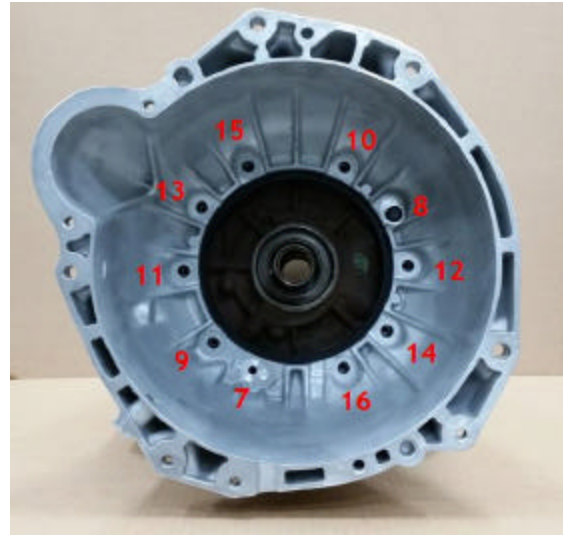

Figure 6 – Bellhousing torque sequence
- Torque bolts 7 - 16 to 18 ft-lbs using Figure 6 torque sequence below.